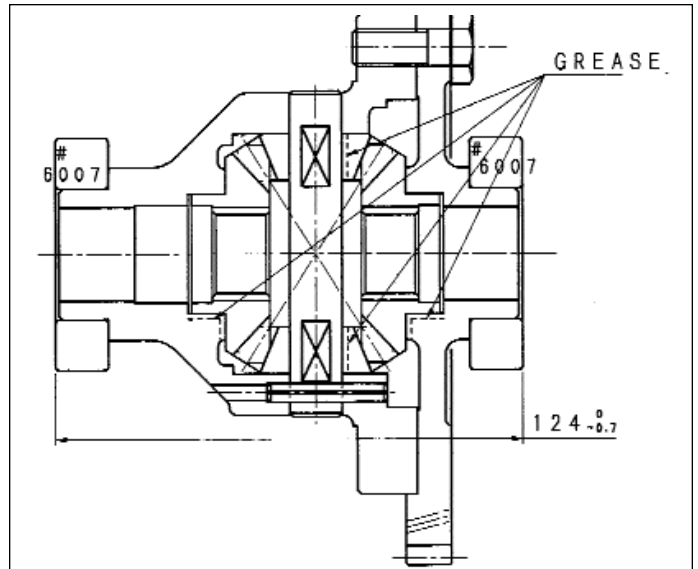
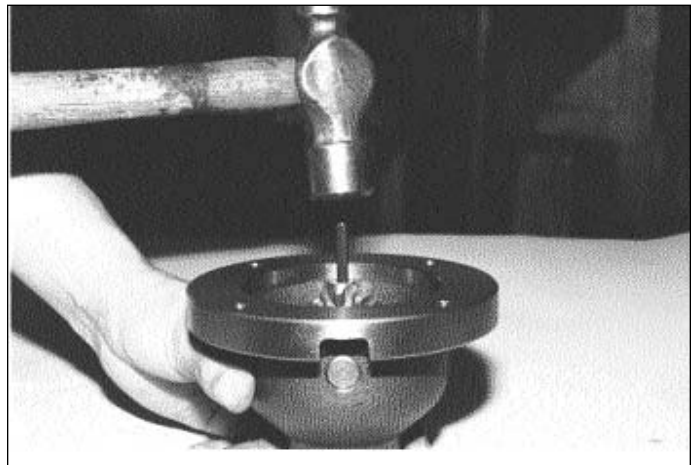

Figure 39 - Assembly Input Shaft
Figure 41 - Spring Pin
6. Lightly coat hubs and teeth of differential gears with moly grease and assemble them with differential shaft in differential housing. See Figure 39. Drive in a new spring pin to retain shaft. See Figure 41.